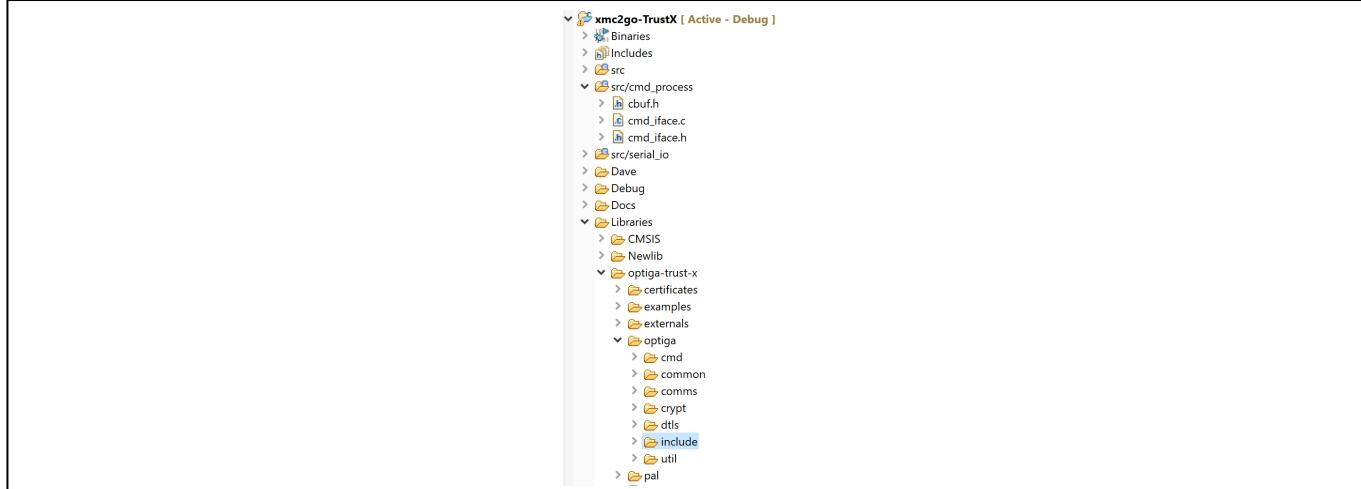

Figure 21
- Add the “include” directory to the path, as shown in **Figure 21**.